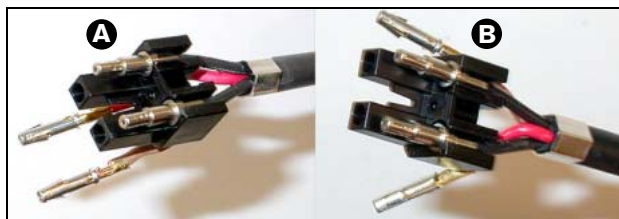

figure 3.28: Mounting block and back housing
- 27 Put the ferrules in the mounting block (see figure 3.28)